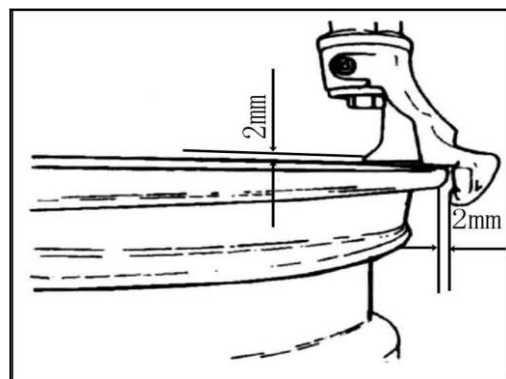

FIG10
- d) Position the hexangular shaft (FIG 3-4) to the working position to make the demount tool close to the rim of the wheel. And use the hand wheel (FIG 3-18) to push against the rocker arm and then use the lock handle (FIG3-3) to lock. The demount tool will automatically move a little of gap (FIG10).